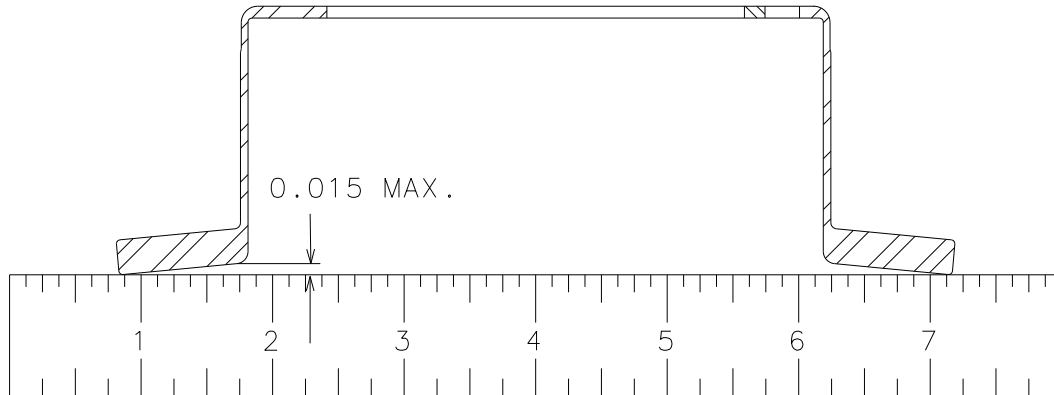

Figure 309 - Disc Coning Limits
- (2) Inspect wheel bearing grease for contamination and solidification at each periodic inspection. Repack bearings with fresh grease – Refer to paragraph 3.A. Bearing Grease.
- (3) Inspect wheel half bearing cup bore for burrs, primer residue, or foreign matter. Make sure surface is clean.
- (4) Inspect snap rings and grease seals for distortion or wear. Replace grease seal felts if they are hard or contaminated. Lightly coat all surfaces of the new felt with the wheel bearing grease (refer to paragraph 3.A. Bearing Grease). Molded rubber grease seals should be replaced if cracked, dried out or distorted.
- (5) Wheel tie bolts by nature of their application are subjected to fatigue type loads. It is best to replace these fasteners at overhaul. If bolts are to be reused they must be inspected for cracks, bending, thread damage, or excessive corrosion. Bolts with evidence of any of these should be replaced with bolts of corresponding part numbers, as specified in the Cleveland Parts List found at [clevelandwheelandbrake.com](http://clevelandwheelandbrake.com). Magnetic particle inspection is the recommended procedure for bolt inspection. Alternate nondestructive inspection techniques, such as ultrasonic inspection, can demonstrate determination of non-airworthy ferromagnetic products consistent with the fluorescent magnetic particle methods. Cleveland typically uses AN, MS, and NAS bolts which, as part of the procurement specification, employ the fluorescent magnetic particle inspection as one of the recognized standards in determining acceptance of product. Therefore, the acceptance standards and methodologies for the ultrasonic inspection techniques have not been specifically developed at Cleveland. Use of the ultrasonic method or any other inspection techniques is the responsibility of the agency determining airworthiness of the product.
- (6) Replace o-rings with o-rings of corresponding part numbers. If necessary, o-rings may be reused. Inspect o-rings for cuts, nicks, distortion, or excessive wear. Check to be sure o-ring has not become brittle or hard.
- (7) Inspect brake disc for cracks, excessive wear, or scoring, mounting hole elongation, corrosion, and warpage. Remove corrosion and blend out small nicks using fine (400 grit) sandpaper. Replace brake disc if worn below wear limits detailed in Appendix A. Coning of disc in excess of 0.015 inch (0.381 mm) is cause for replacement. Ref. Figure 309.